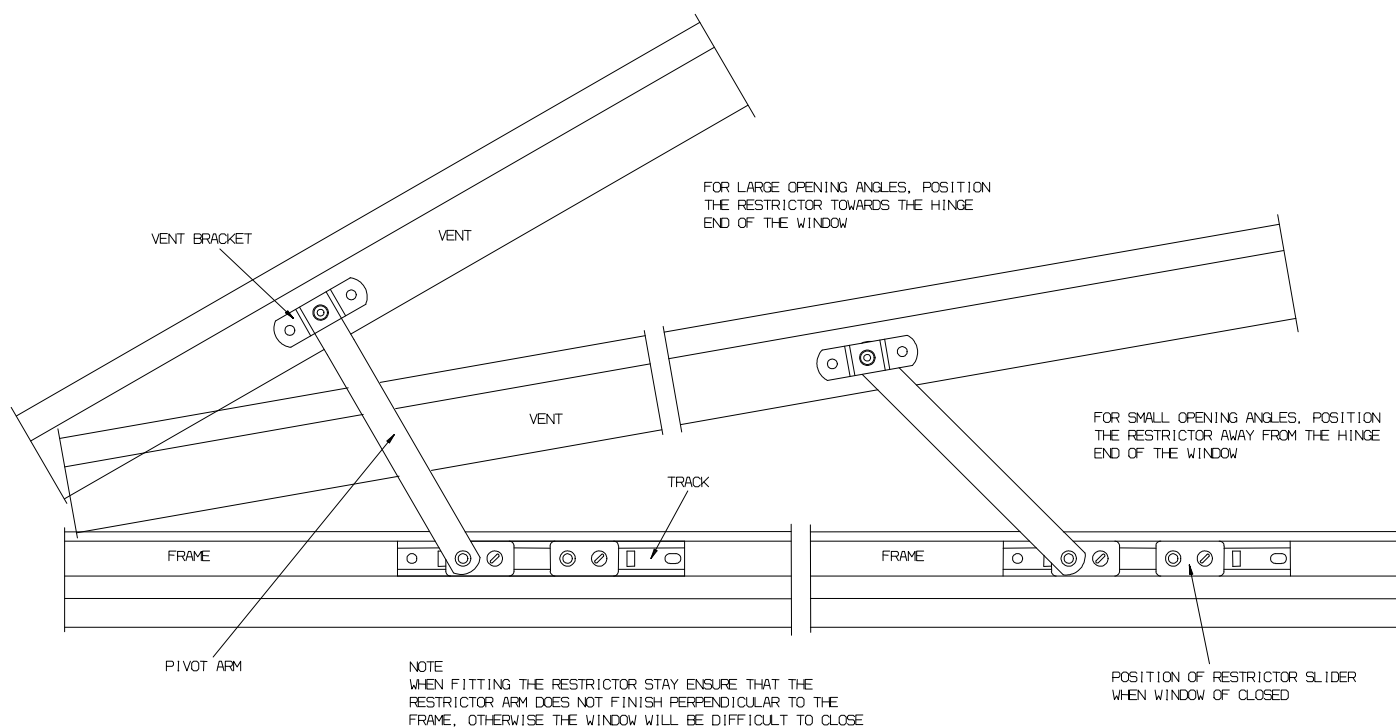

Fig. 4
**Note:** The closer the Restrictor Stay is positioned to the hinge the greater the opening angle of the vent will be, subsequently the further away the Vent Bracket is positioned from the hinge the smaller the opening angle of the vent will be. See Fig. 4
**Note:** The closer the Detachable Restrictor Stay is positioned to the hinge the greater the opening angle of the vent will be, subsequently the further away the Vent Bracket is positioned from the hinge the smaller the opening angle of the vent will be. (As Fig. 4 but with the Vent Bracket attached to the Frame and the Track attached to the Vent).